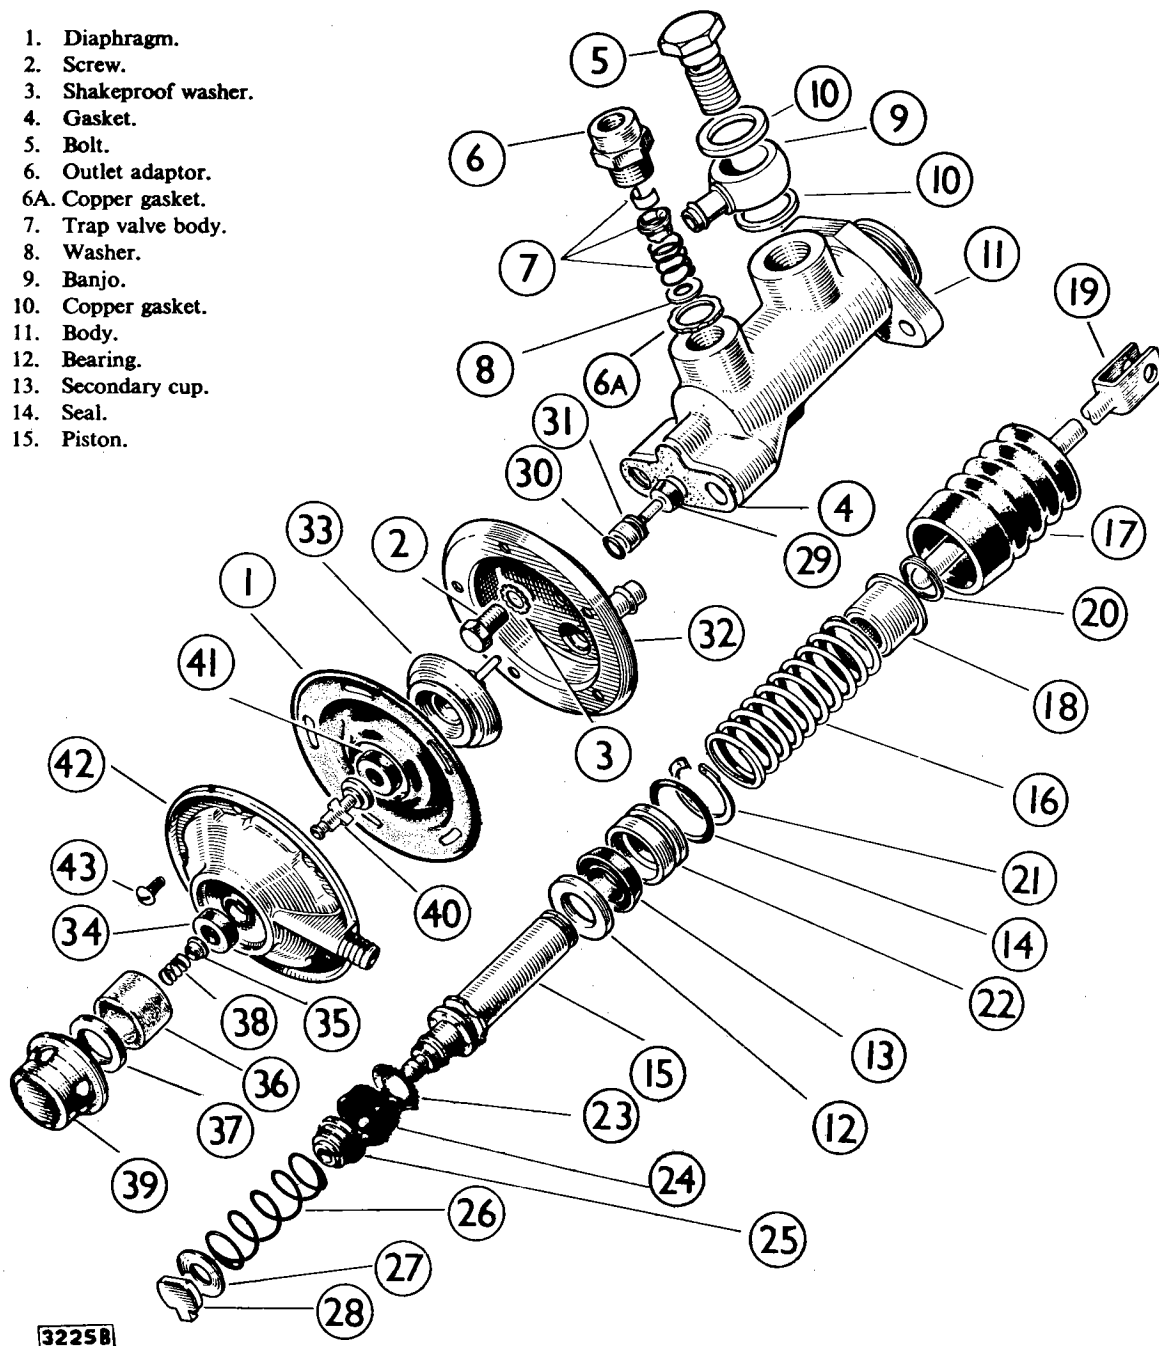

Fig. 3. Exploded view of the master cylinder and reaction valve.
**MASTER CYLINDER AND REACTION VALVE****Dismantling (Fig. 3)**